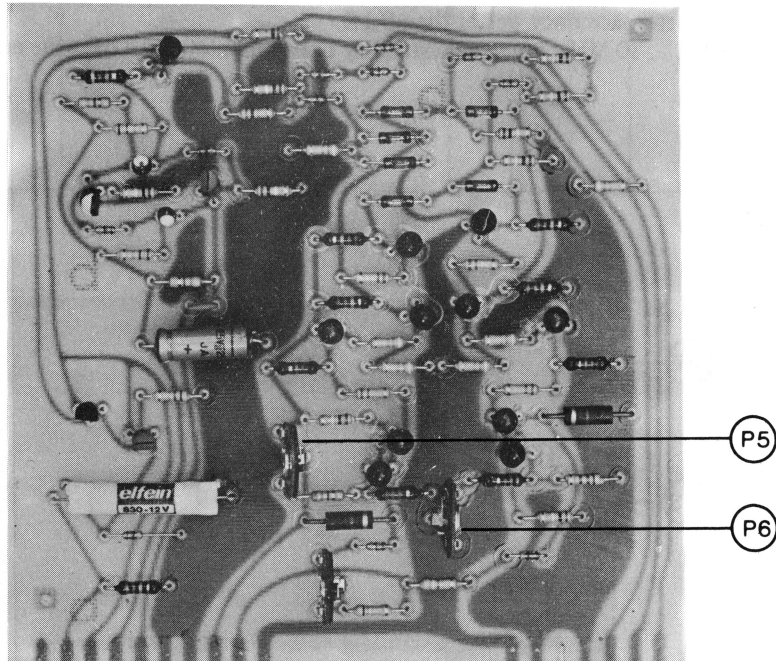

Fig. 8. Adjustment of range shift levels.
6. Adjust potentiometer P5, Fig. 8, so that shift to the next higher range occurs at «+1.5 dB».